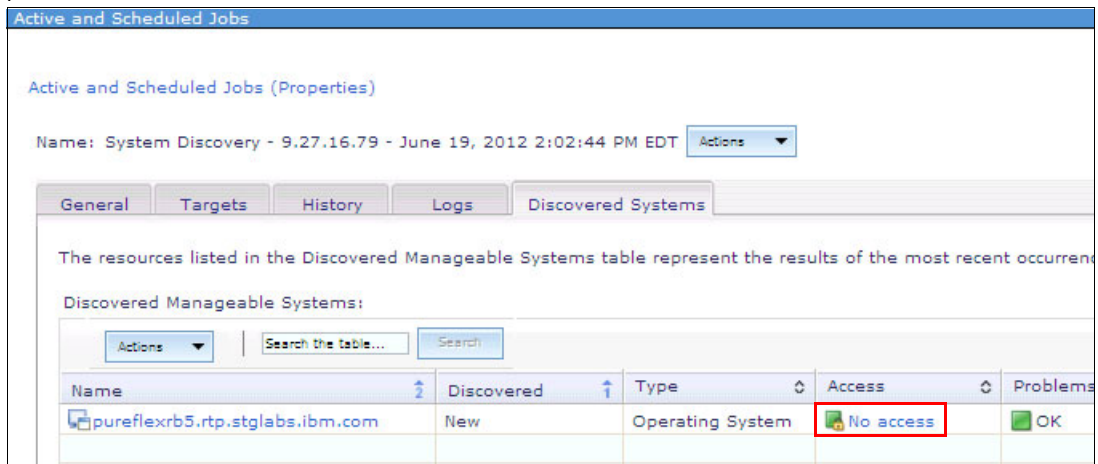

Figure 9-13 Discovered KVM host system
3. When the job is complete, click the discovered system. You can see that an operating system object type has been discovered as shown in Figure 9-13. Click **No access**.